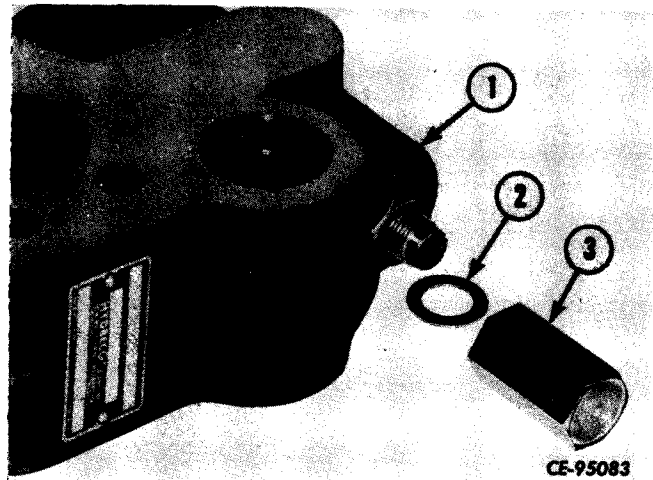

Figure 11-38
Remove crown nut (3, Fig. 11-38) and washer (2) from relief valve (1).
If adjustment is required, shut off the engine. Loosen jam nut and turn adjustment screw clockwise to raise pressure or counterclockwise to reduce pressure. Tighten jam nut and check pressure again with engine running at full throttle. When correct adjustment is achieved, install washer (2, Fig. 11-38) and crown nut (3) on valve (1). Make sure adjusting screw jam nut is securely tightened before installing acorn nut.